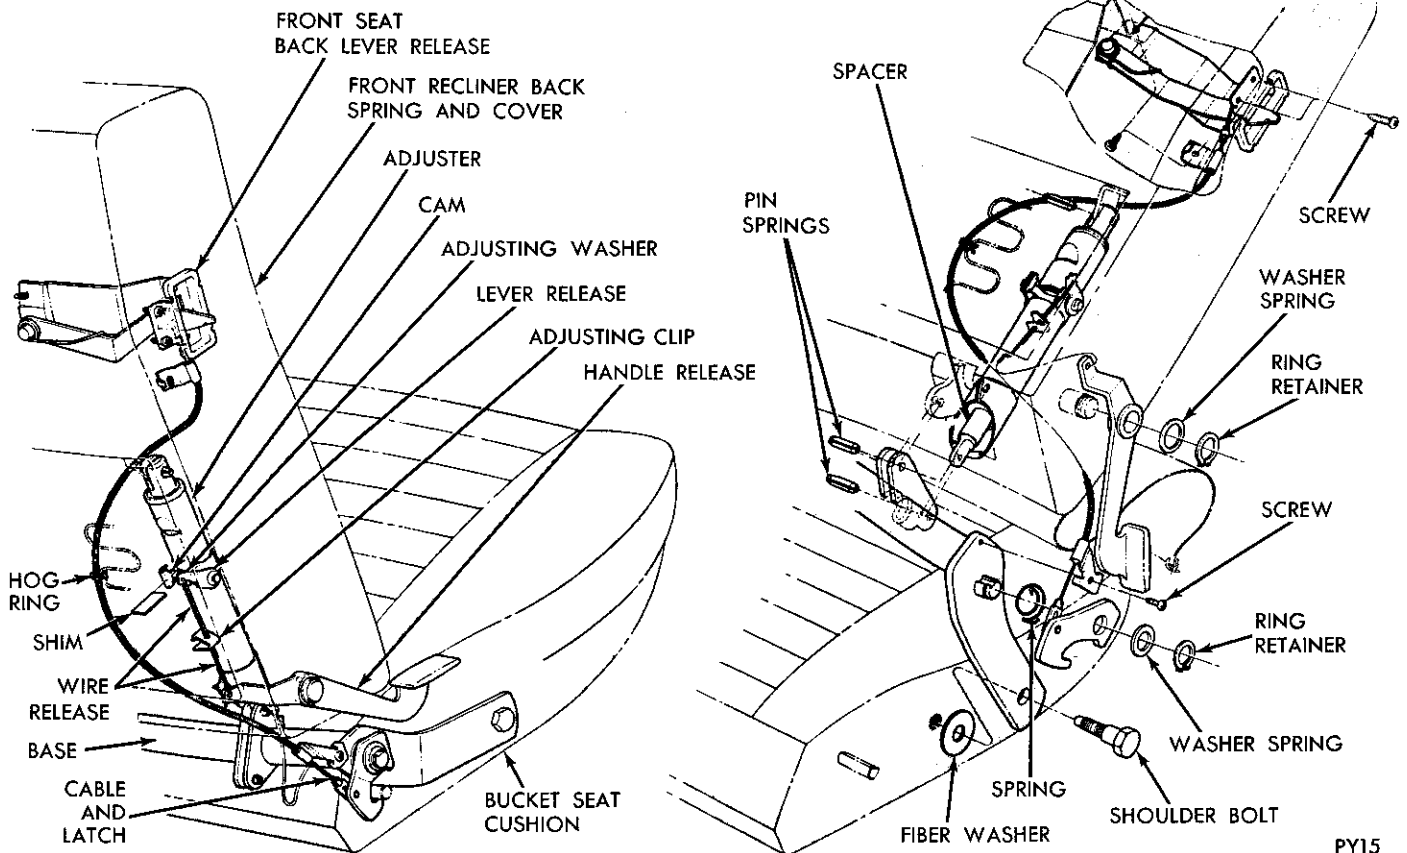

Fig. 11—Reclining Seat Mechanism (Bucket Type)
Bucket Type (Fig. 11)
- (1) Before pad support and cover are assembled, attach lever release to front recliner.
- (2) Insert upper end of cable into hole in lever. Attach cable and latch to front spring and cover using screw.
- (3) Install spacer on rod end of adjuster. See Figure 11. **(THE SEAT CANNOT BE ASSEMBLED WITHOUT SPACER).**
- (4) Insert adjuster into back of recliner with clevis end on bracket and rod end protruding through the opening in bottom recliner.
- (5) Align holes of clevis in adjuster, with hole in bracket on front recliner. Drive pin spring through bracket and sides of clevis on adjuster.
- (6) Cut clearance hole in side facing of cover so that the release handle shaft is accessible.